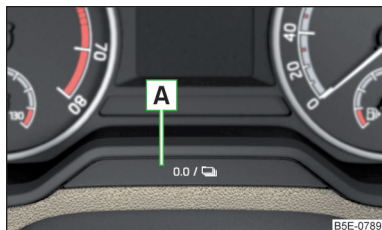

Fig. 23
- Press button **A** » Fig. 23 on page 43.
- Press and hold the button **A** » Fig. 23 until the time is shown in the display.